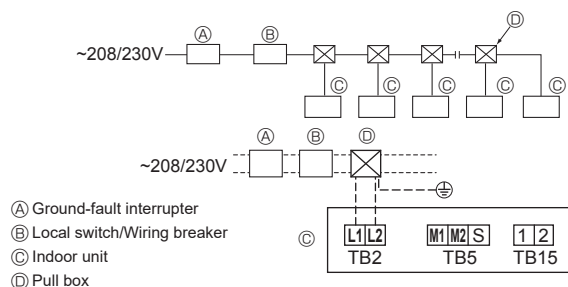

Fig. 4-7
4.3. Power supply wiring (Fig. 4-7)